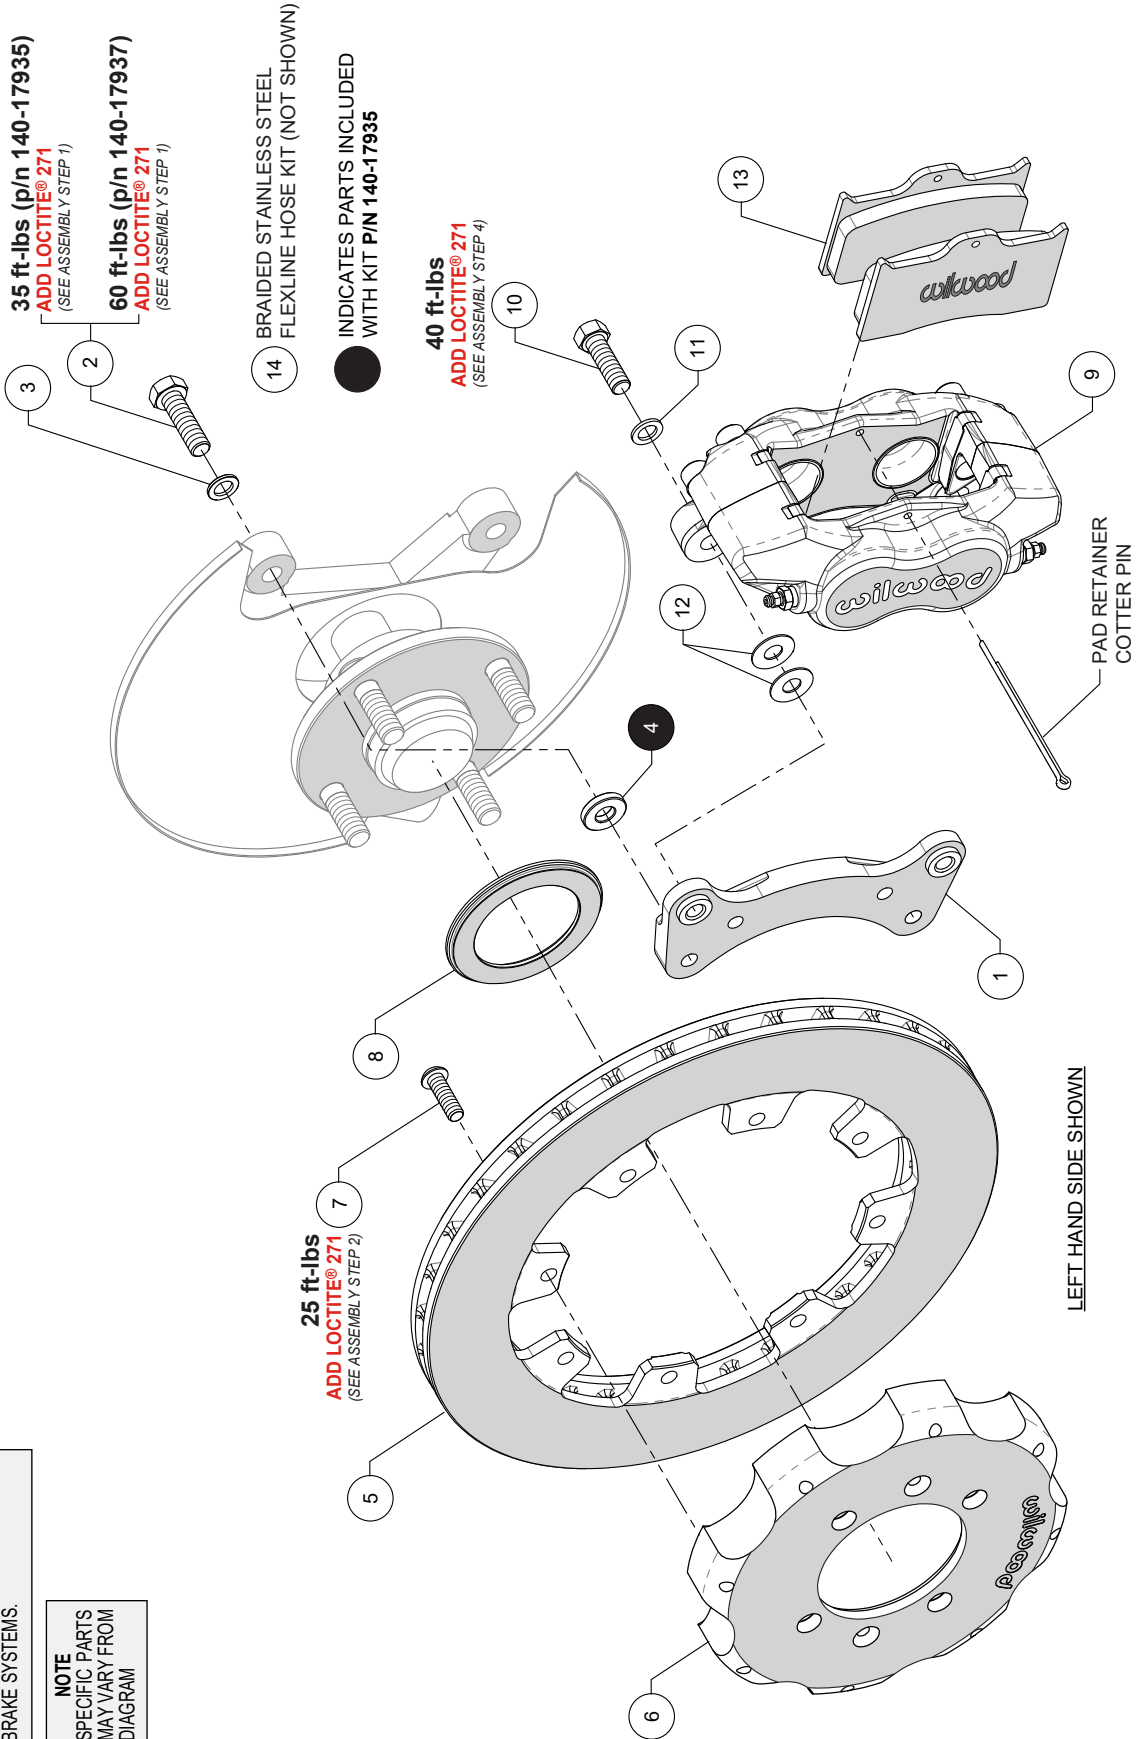
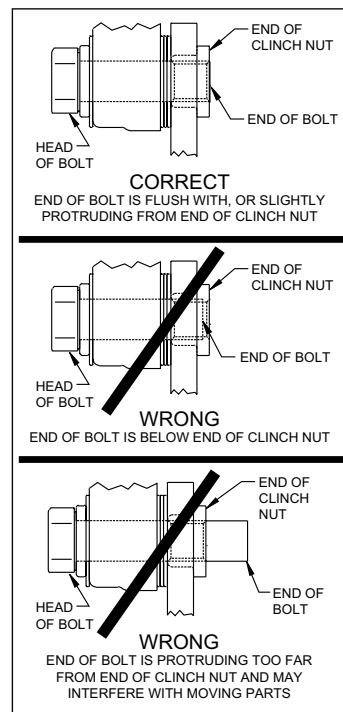

Figure 1. Typical Installation Configuration
Figure 3. Clinch Nut Engagement Diagram
Numbers in parenthesis refer to the parts list and Figure 1 on the preceding pages.
**CAUTION:** All mounting bolts must fully engage clinch nuts. Be sure to check that all bolts are either flush or protruding through flanged side of clinch nut after shimming, Figure 3.
**STEP 1** The caliper mount bracket (1) should initially be installed with clean, dry threads on the mounting bolts. Orient the bracket as shown in Figure 1 and Photo 1, and install using bolts (2) and washers (3).
- For kit p/n 140-17935: Place one .165" thick spacer (4) on each bolt between the bracket and upright, Figure 1 and Photo 2 (see arrow).
Apply red *Loctite*® 271 to bolt threads (2) and torque bolts to value shown in Figure 1. **CAUTION:** Be sure to use the correct torque specification shown in Figure 1 for the kit you are installing. **NOTE:** The bracket must fit squarely against the mount bosses on the upright. Inspect for interference from casting irregularities, machining ridges, burrs, etc.
**STEP 2** Orient the rotor (5) and hat (6) as shown in Figure 1 and Photo 3, then attach rotor to hat using bolts (7). Apply red *Loctite*® 271 to the bolt threads and torque to value shown in Figure 1 using a criss-cross pattern.
**STEP 3** Install the rotor registration adapter (8) onto the register of the hub assembly with the smaller O.D. facing outward, Photo 4. Slide the rotor/hat assembly (5/6) onto the hub assembly. **NOTE:** The hat must fit flush against the hub flange or excessive rotor run out may result. Install two lug nuts (finger tight) to keep the rotor/hat assembly in place while continuing with the installation, Photo 5.
**STEP 4 NOTE:** Please reference the caution statement at the beginning of the assembly instructions. Mount the caliper (9) onto the caliper mounting bracket (1) using bolts (10) and washers (11), as shown in Figure 1, and follow one of the procedures below based on which kit you have purchased.
- For kit p/n 140-17935: Initially place two .035" thick shims (12) on each bolt (10) between the caliper and the bracket, Photo 6a.
- For kit p/n 140-17937: Initially place one .035" thick shim (12) on each bolt (10) between the caliper and the bracket, Photo 6b.
Temporarily tighten the mounting bolts and view the rotor (5) through the top opening of the caliper. The rotor should be centered in the caliper, Photo 7. If not, adjust by adding or subtracting shims between the bracket and the caliper. Always use the same amount of shims on each of the two mounting bolts. **NOTE:** The end of each bolt (10) must be flush with or slightly protruding from the head of the clinch nut, as shown in Figure 3. If necessary, place spare shims between washer (11) and caliper mounting ear to achieve the proper clinch nut engagement. Once the caliper alignment and clinch nut engagement are correct, remove the bolts (10) one at a time, apply red *Loctite*® 271 to bolt threads, and torque to value shown in Figure 1.
**STEP 5** Install the disc brake pads (13) into the caliper, with the friction material facing the rotor (5), Photo 8. Secure in place using pad retainer cotter pin, Figure 1 and Photo 9.
**STEP 7** Attach brake line to caliper. **NOTE:** OEM rubber brake hoses generally cannot be adapted to Wilwood calipers. Install Wilwood's stainless steel braided flexline hose kit (14) that is included with this kit. See below for more info on flexline kits.